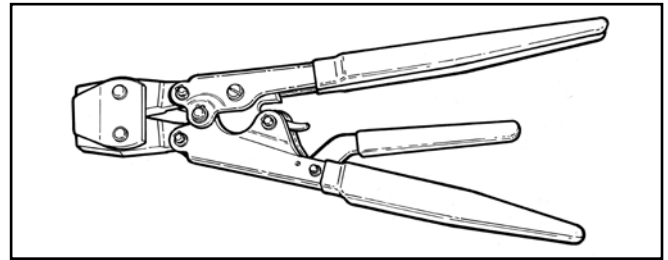

Fig. 1: 9253 SCP
1. **3-Handle Ratchet Pincer** (Fig. 1)